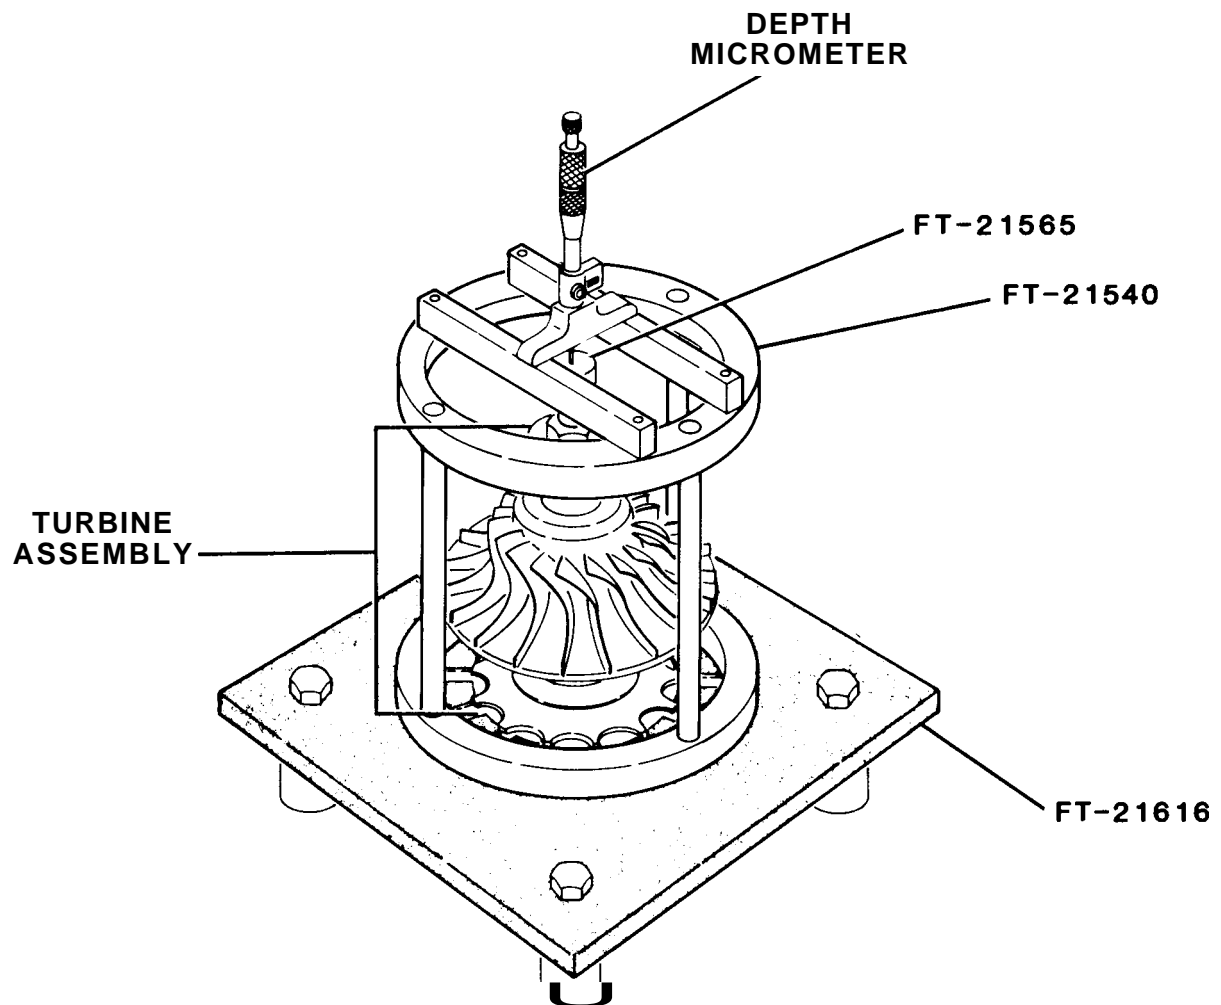

Figure 8-12. Obtaining Reading for Turbine Shaft Stretch Using Fabricated Tools FT-21540 and FT-21565
(9) Place fabricated tool (FT-21540, Figure 8-12) over assembly. Place fabricated tool (FT-21565) on top of the turbine wheel shaft Take a base reading from top of fabricated tool (FT-21565) to top of fabricated tool (FT-21540) using depth micrometer Note the reading The shaft must be stretched 0.007 to 0.009 Inch (0.018-0.023 cm) from the original reading Remove fabricated tools (FT-21540 and FT-21565)